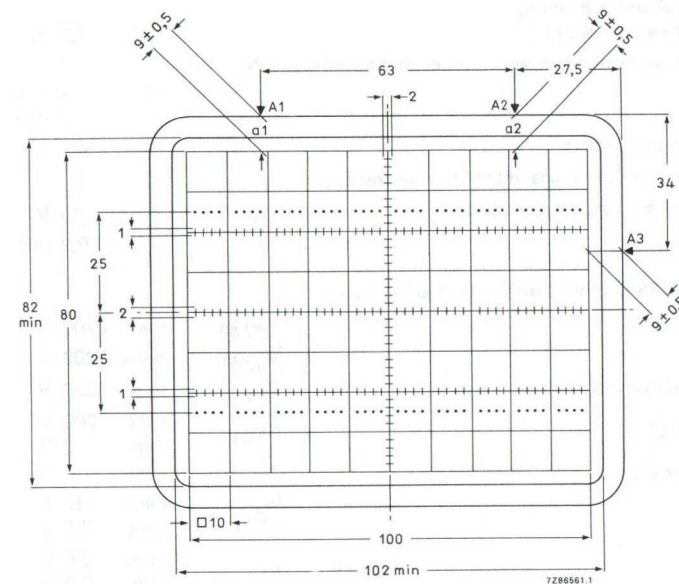

Fig. 4 Front view of tube with internal graticule, type 93.
The tube can be mounted in any position. It must not be supported by the socket and not by the base region alone. The reference points on adjoining edges of the faceplate (see Fig. 4) enable the tube to be mounted accurately in the front panel, thus providing optimum alignment of the internal graticule.
- As the frit seal is visible through the faceplate, and not necessarily aligned with the internal graticule, application of an external passe-partout with open area of max. 102 mm x 82 mm is recommended. The internal graticule is aligned with the faceplate by using the faceplate reference points (see Fig.4).
- (1) Dimensions of faceplate only. The complete assembly of faceplate and cone (frit seal included) will pass through an opening of 122 mm x 102 mm.
- (2) The coil is fixed to the envelope with resin and adhesive tape.
- (3) The length of the connecting leads of the rotation coil is min. 350 mm.
- (4) Reference points on faceplate for graticule alignment (see Fig. 4).
The internal graticule is aligned with the faceplate by using the faceplate reference points A1, A2 and A3, see Fig. 4. See also note 1, page 7.